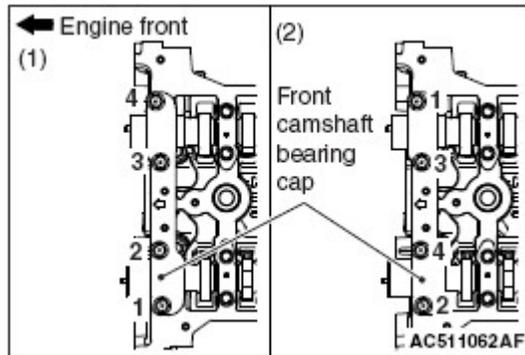

Fig. 75: Identifying Front Camshaft Bearing Cap Mounting Bolts Tightening Sequence
bearing cap mounting bolts to the specified torque in the order (1 in **Fig. 75.**)
2. Tighten the front camshaft bearing cap mounting bolts again to the specified torque in the order (2 in **Fig. 75.**)